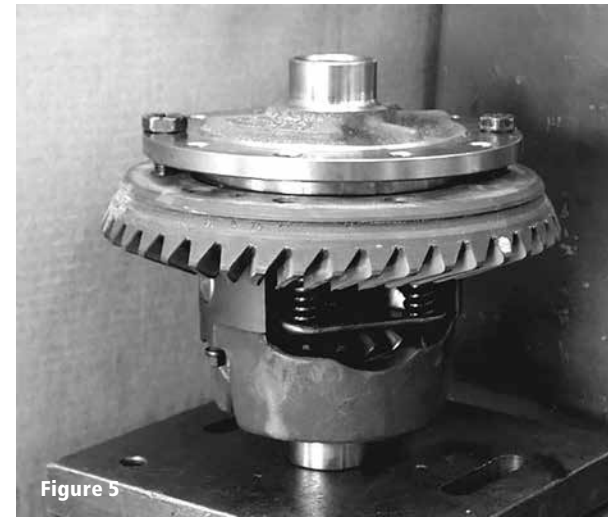

Figure 5
25. Install the ring gear while hot onto the differential. It is advantageous to use pilot studs to align the ring gear to the differential as shown in Figure 5.